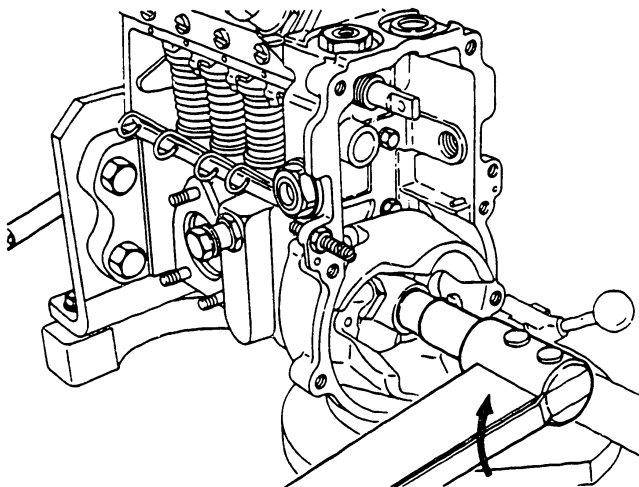

Fig. 120 Tightening the flyweight round nut
4. Be sure to tighten the round nut (103) in the flyweight assembly mounting to the specified torque. (Fig. 120).